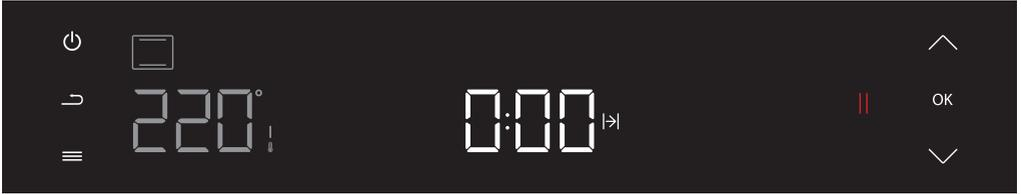

Figure 19
4. After pressing the approval (OK) button, the active setting indicator switches to the time indicator. (see figure 19) The desired cooking time is set within the specified limits by pressing the up (▲) or (▼) down keys. (see figure 20) Press the confirm button (OK) once to approve the cooking time. (see figure 21) Press the confirm button (OK) long to start cooking. (see figure 22)